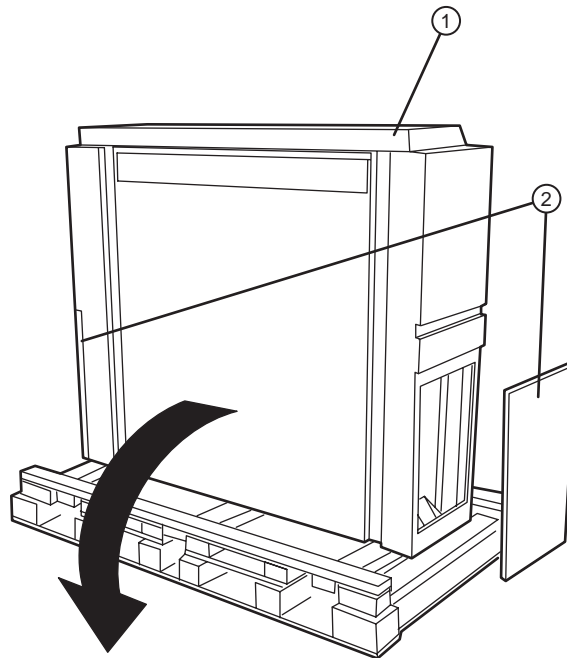

Figure 1-4 Removing the side panels.
- ①—Shipping strap. ②—Two rear outriggers.
③—Two 7/16" hex outrigger bolts. ④—Pallet bolts (located under unit).
8. Remove the unit's bottom side panels (left and right) by pulling them straight out. Refer to Figure 1-4.
①—Top cover. ②—Side panels.
- Each person must grip the unit at the top of the side panel opening. Refer to Figure 1-4. Lift the unit free of the pallet, and set the unit on the floor.
- Replace the side panels at the bottom of the unit frame. Refer to Figure 1-4.
- ①—Buffer. ②—Imagesetter.
- ③—Hex bolt (1 of 2).
20. Open the lower right panel on the buffer by pulling the panel straight out (see Figure 1-4).